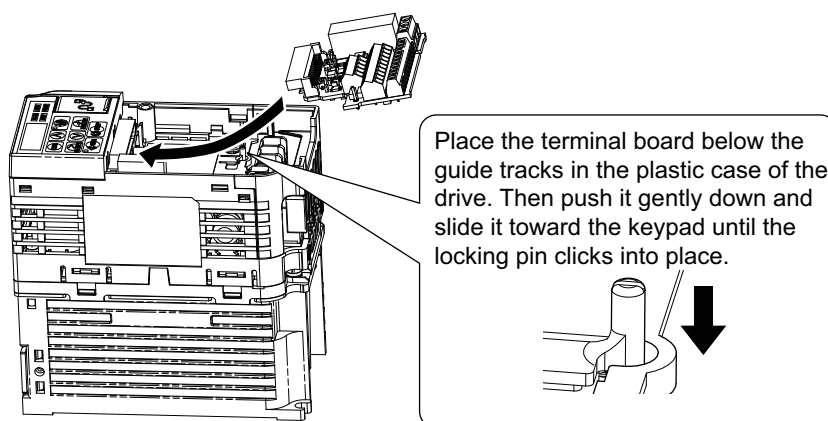

Figure 7.9 Terminal Board Replacement
1. Replace the removable terminal block on the drive according to Figure 7.9